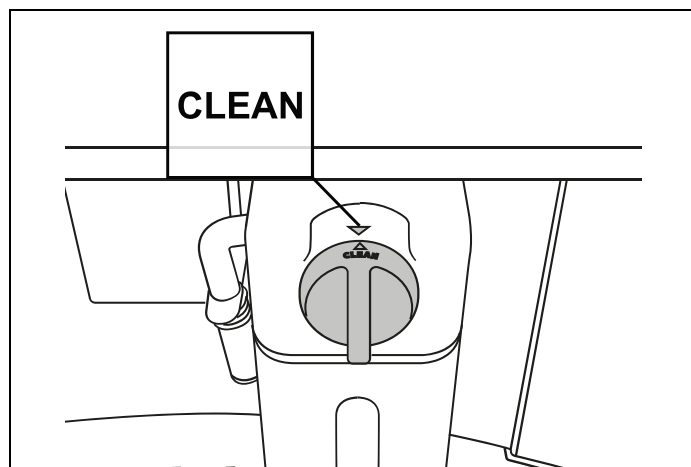
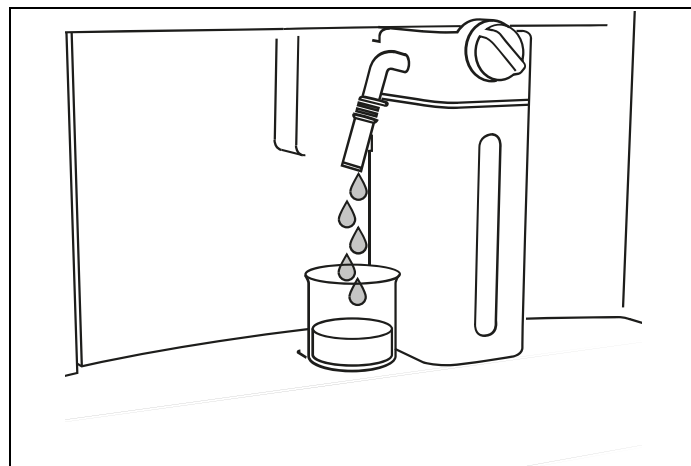

Fig. 37
Fig. 38
- 3) Turn the foam adjustment dial (D1) to **CLEAN** (Fig. 37): **Cleaning milk container** (Fig. 38) appears on the display (B) together with a bar which gradually fills as cleaning proceeds. Cleaning stops itself automatically;